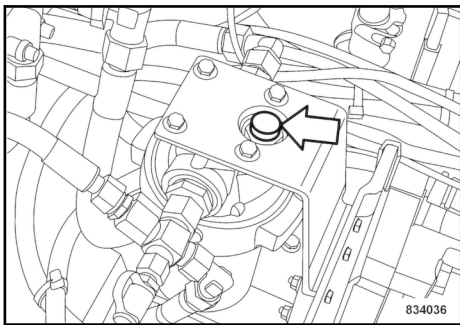

Fig. 154
1. Check the contamination indicator ↗ Fig. 154 at operating temperature and with the engine running at maximum speed.